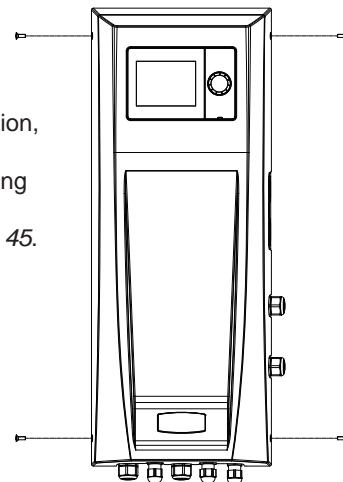

Figure 45. Front Panel Removal
- Remove Front Panel, refer to *Figure 45* and inspect all electrical connection for signs of damage / loose connections etc.
To allow for inspection, the casing must be removed by removing the four screws displayed in *Figure 45*.